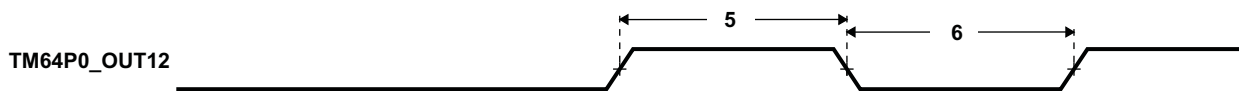

**Figure 6-82. Timer Timing**
**Table 6-130. Timing Requirements for Timer Input(1) (2) (see Figure 6-82)**